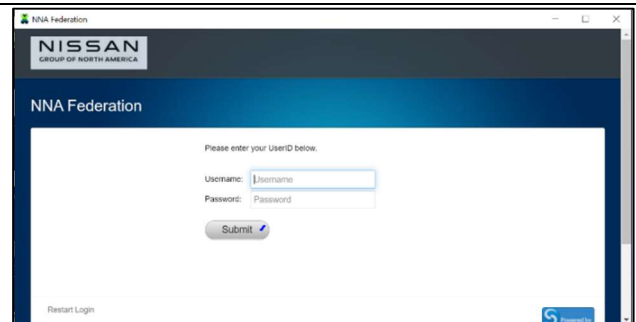

Figure 5
8. Enter login information and select **Submit**. (Figure 5)